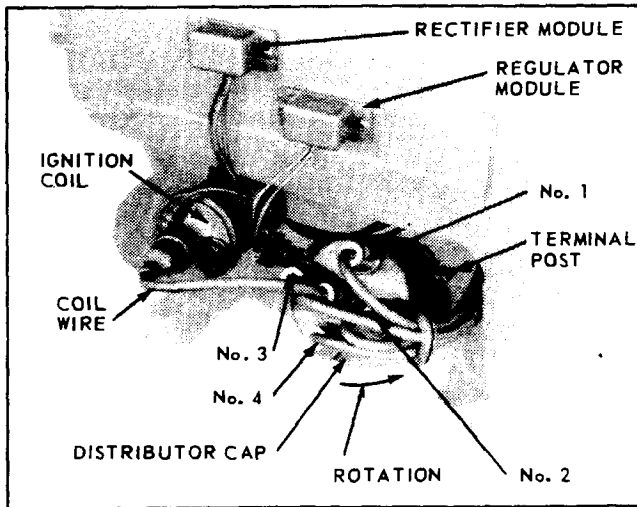

Fig. 22
5. Assemble dust cover and distributor cap. Connect ignition wires from distributor to spark plugs and coil per *Fig. 22* and wiring diagram *Fig. 27*.